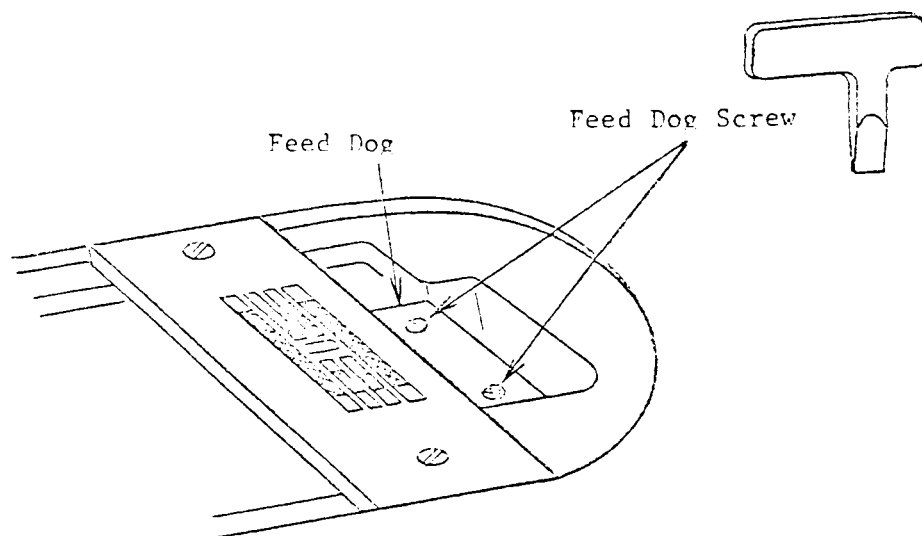

Fig. 21
- b. Loosen the two feed dog screws. (Fig. 21)